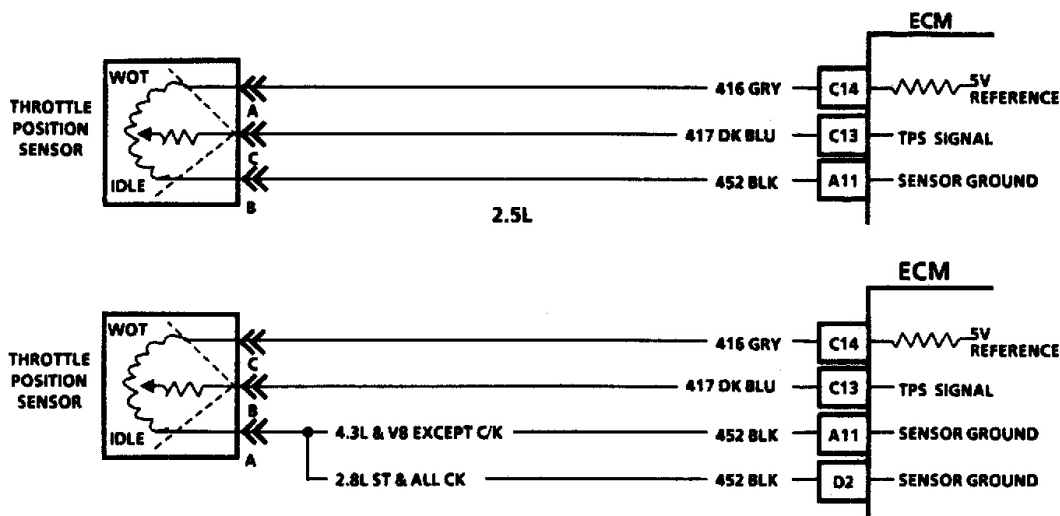

Fig. 3: Typical Throttle Position Sensor Circuit
1. Install jumper wires to enable connection of a DVOM in parallel between TPS harness connectors. Connect DVOM positive lead to Dark Blue wire terminal. Connect negative lead to Black wire terminal. See **Fig. 3**.